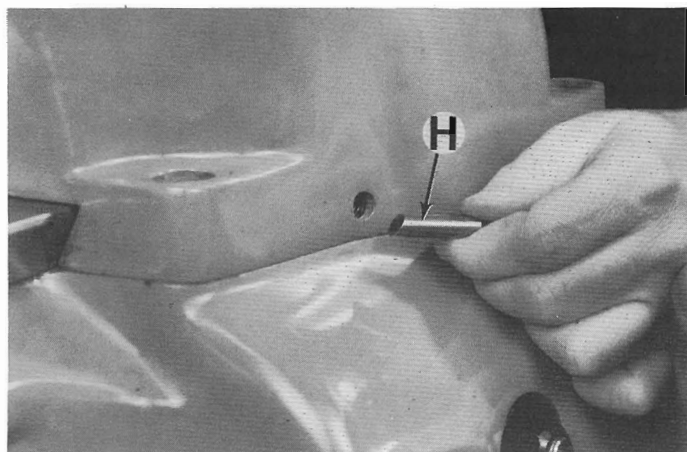

Figure 52 — Headstock Locking Plug
9. Remove lock screw "G" and remove set screw under lock screw "G". Remove locking plug "H", Figure 52.
3. Replace locking plug "H", Figure 52. Use care that locking plug angle matches dovetail. Replace and tighten set screw until snug. Replace lock screw "G", Figure 51.